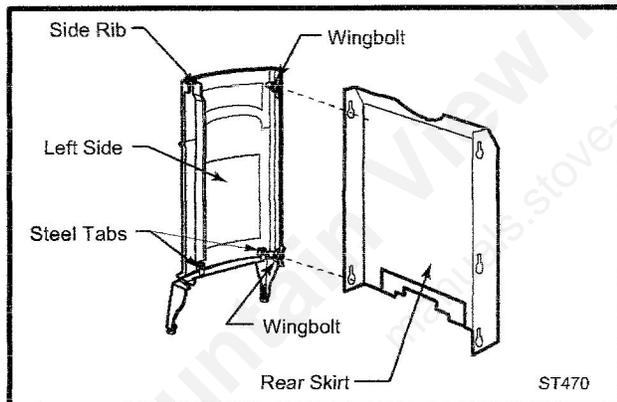

Fig. 15 Fasten left end to rear skirt.
1. Attach the Rear Skirt to the Left End plate by aligning the key holes with the two wingbolts in the side. If necessary, turn the wingbolts to orient the blades vertically. (Fig. 15) Slide the skirt downward to engage it behind all three washers on the side plate bolts and then tighten both wingbolts.